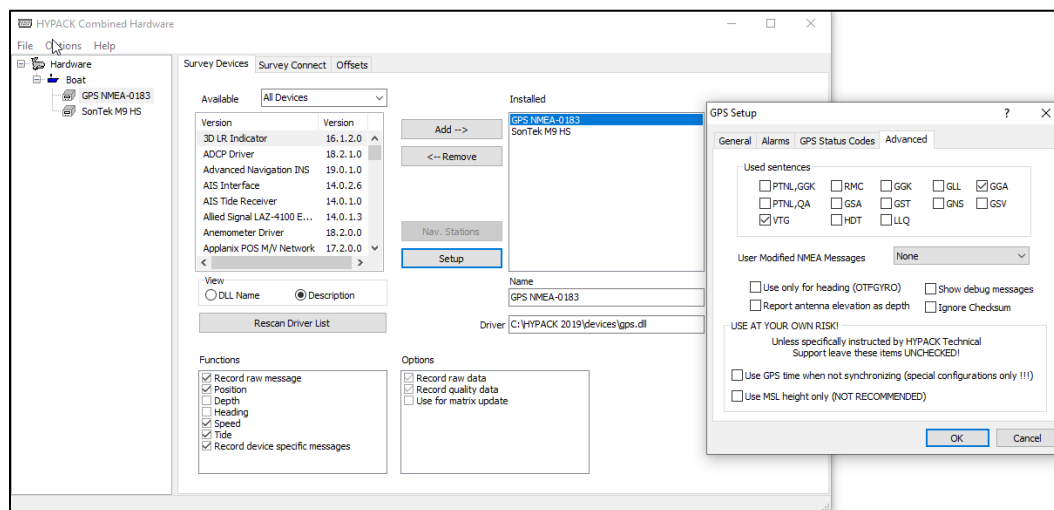

Figure 5.—HYPACK Combined Hardware window for setting up survey devices.
Within a project, survey devices are set up in the HYPACK Combined Hardware window (figure 5). Under the Preparation drop-down menu in the HYPACK shell top menu bar (figure 1), select “Hardware Setup” to access this window. Under the Hardware and Boat mobiles on the left side of the HYPACK Combined Hardware window, add two devices—one for the Global Positioning System (GPS) data (gps.dll) and one for the SonTek M9 (SonTek_M9.dll) (figure 5).
1. In the HYPACK Combined Hardware window, verify both the GPS device and the **Survey Devices** tab are selected. In the Functions box in the lower left corner of the Survey Devices tab, ensure everything is checked EXCEPT “Depth” and “Heading,” then click on “Setup.” Under the Advanced tab in the GPS Setup popup window, ensure only the “GGA” and “VTG” used sentences are checked, then click “OK” (figure 5).